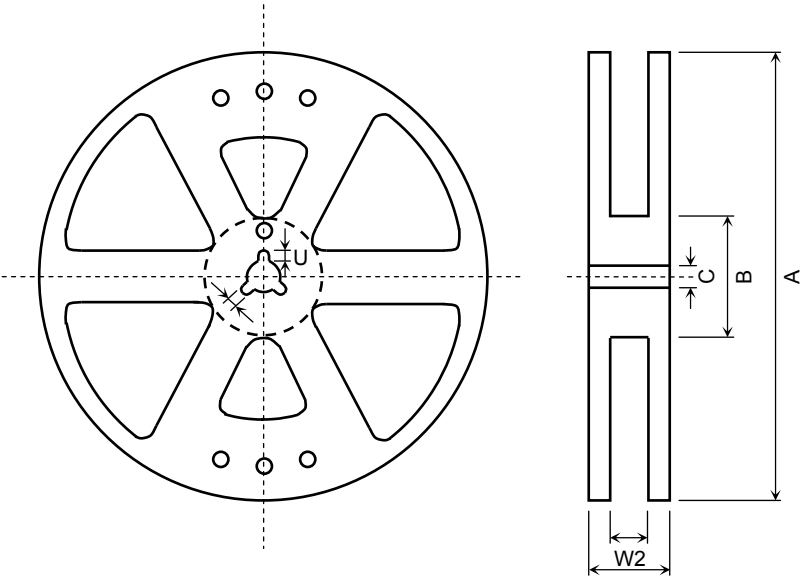

Figure 3 Reel Form
- (1) Material: Plastic
- (2) Dimensions: The reel dimensions are as shown in Figure 3 and Table 3.